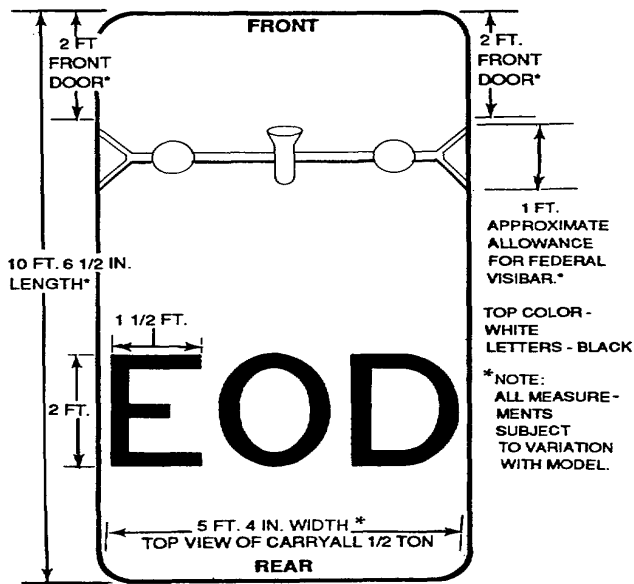

Figure 16. Hardtop vehicle with explosive ordnance disposal marking.
- (1) Semitrailers.....6 inches high
- (2) Trucks.....4 inches high
- (3) 2-Wheel trailers .....3 inches high
**For hard top vehicles, Figure 16, with Explosive Ordnance Disposal marking (EOD) roof must be painted in lusterless white so as to reduce the internal temperature. This will also reduce bleed off of the liquid nitrogen.**
- (1) Gasoline (number) grade
- (2) Oil (number) grade
- (3) Water alcohol
- (4) Explosive Ordnance Disposal (EOD)